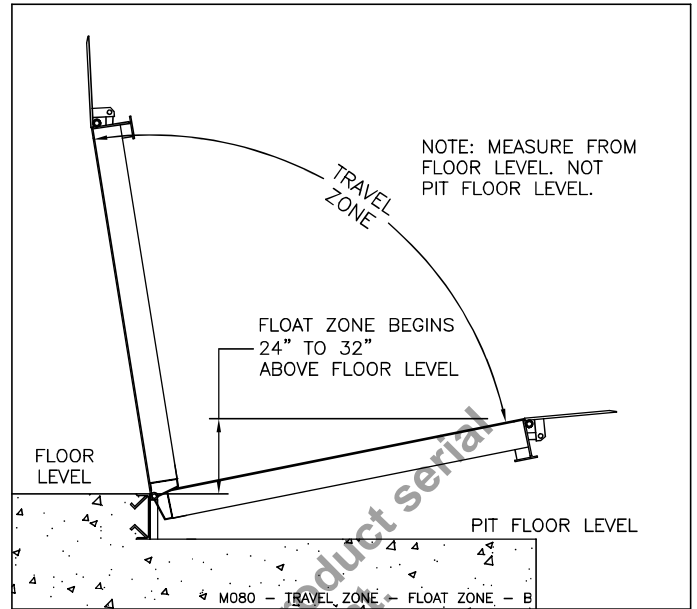
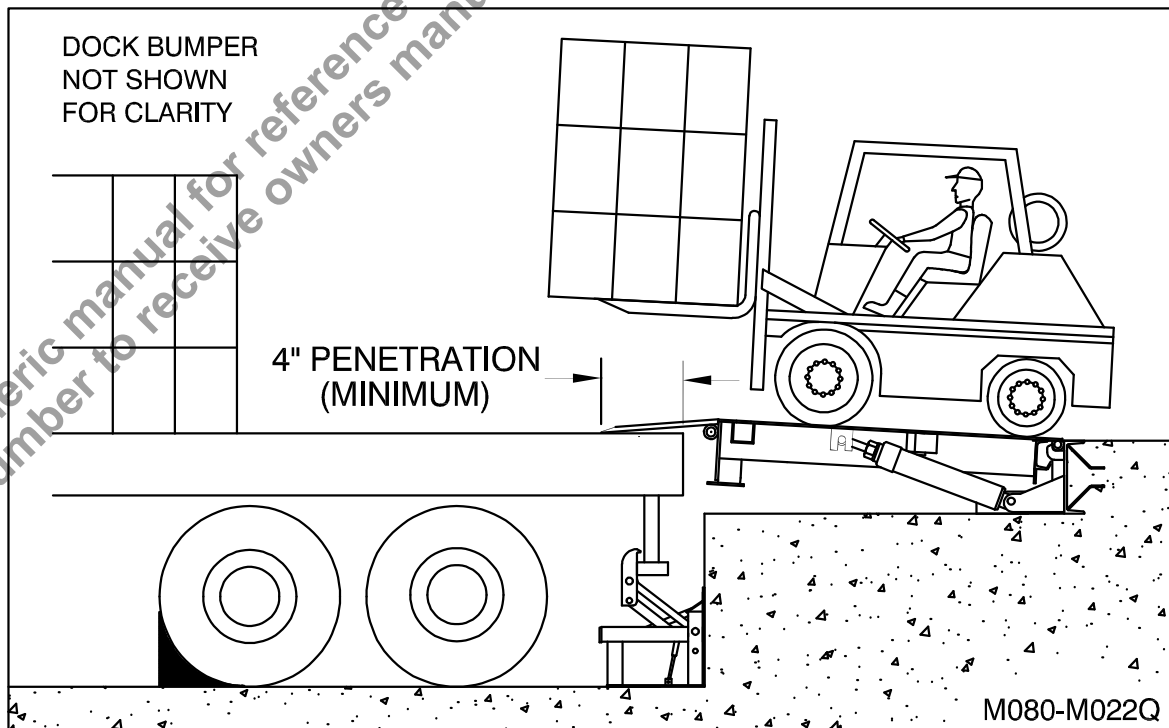

Figure 26: Travel & Float Zones
Figure 27: Minimum 4" Penetration
NOTE: Always be certain that the truck/trailer is parked tight against the face of both dock bumpers and that the truck is locked in place by a vehicle restraint or use other suitable means to restrain the vehicle and the overhead door is open (See “Figure 27: Minimum 4” Penetration” on page 48) before loading or unloading. All ‘air ride’ trailers must release the air from the suspension mechanism prior to activating the dock leveler for use.
3. With the deck in the fully stored position the inside red light will be illuminated. Depress and hold the **DECK LOWER** button. The inside red light will remain illuminated while in the travel zone (See Figure 26: Travel & Float Zones on page 48). The inside red light will deactivate and the inside green light will illuminate once the deck is in the float zone and has fully lowered onto the truck bed (See “Figure 27: Minimum 4” Penetration” on page 48). The inside green light must illuminate.
4. Note: The lip must extend a minimum of 4” onto the truck bed (See “Figure 27: Minimum 4” Penetration” on page 48).
NOTE: Always be certain that the truck/trailer is parked tight against the face of both dock bumpers and that the truck is locked in place by a vehicle restraint or use other suitable means to restrain the vehicle and the overhead door is open (See "Figure 27: Minimum 4" Penetration" on page 48) before loading or unloading. All 'air ride' trailers must release the air from the suspension mechanism prior to activating the dock leveler for use.
4. With the deck in the fully stored position the inside red light will be illuminated. Depress and hold the **DECK LOWER** button. The inside red light will remain illuminated while in the travel zone (See Figure 26: Travel & Float Zones on page 48). The inside red light will deactivate and the inside green light will illuminate once the deck is in the float zone and has fully lowered onto the truck bed (See "Figure 27: Minimum 4" Penetration" on page 48). The inside green light must illuminate.
NOTE: If the **DECK LOWER** button is released when the deck is in the **TRAVEL ZONE** (See Figure 26: Travel & Float Zones on page 48), Deck lowering will stop & the buzzer will sound in a pulsating manner.
5. Note: The lip must extend a minimum of 4” onto the truck bed (See “Figure 27: Minimum 4” Penetration” on page 48).